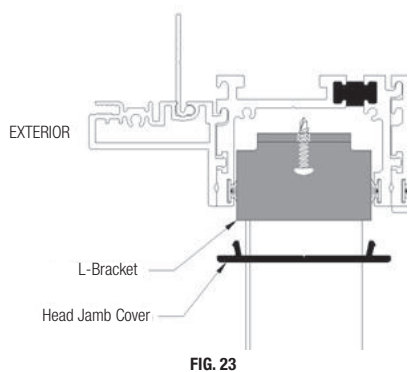

FIG. 23
- Install the side jamb track caps on the exterior of the locking side jamb by fitting it to the head jamb and gently insert it in place. (Fig. 23)